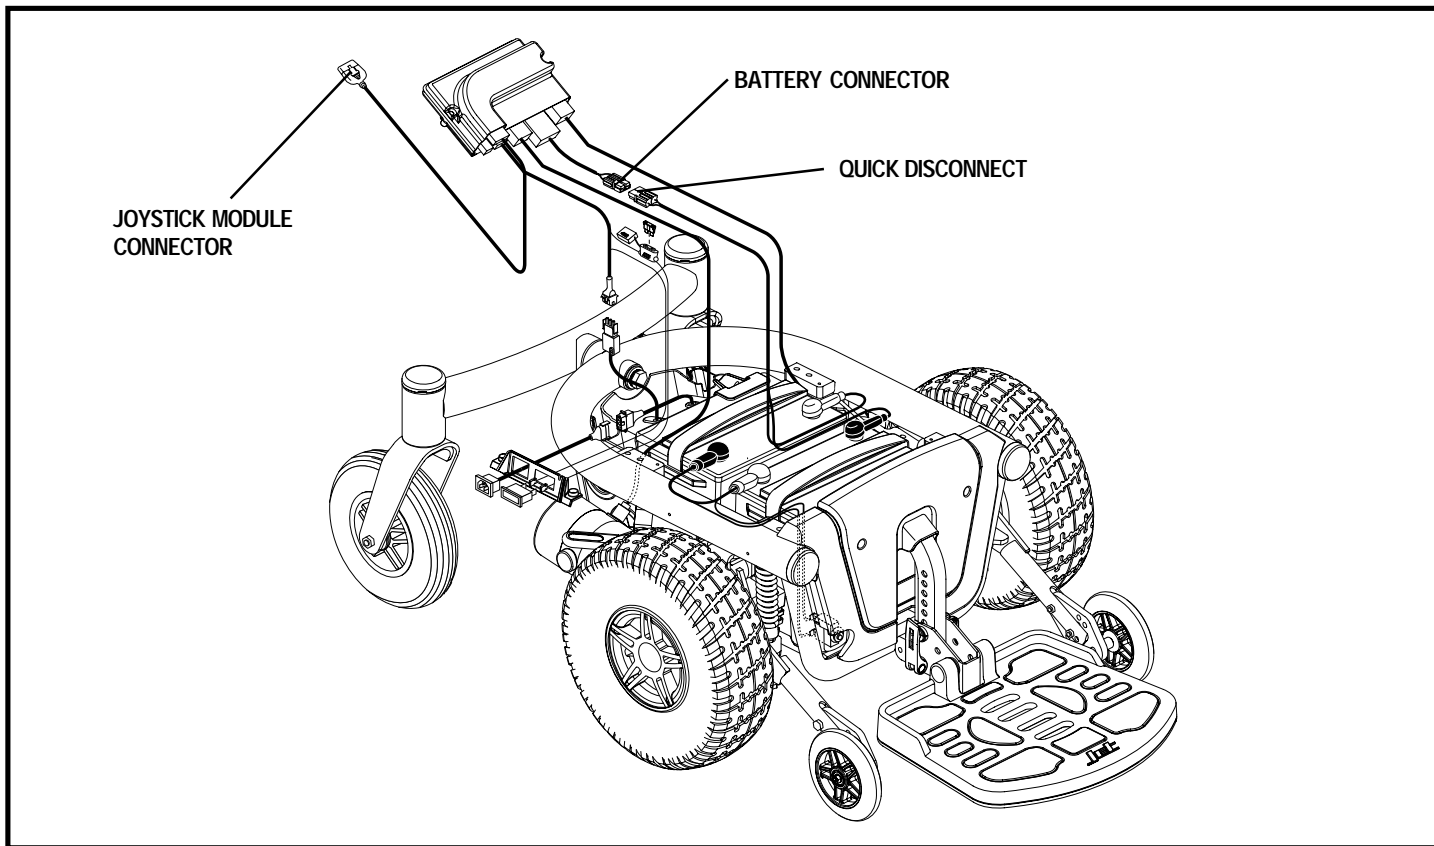

Figure 26. Jet 3 Ultra Battery Connections
5. Unplug the battery connector. See figure 26.
16. Connect the wiring harnesses to the rear battery. See figures 26 and 27.
19. Connect the wiring harnesses to the front battery. See figures 26 and 27.